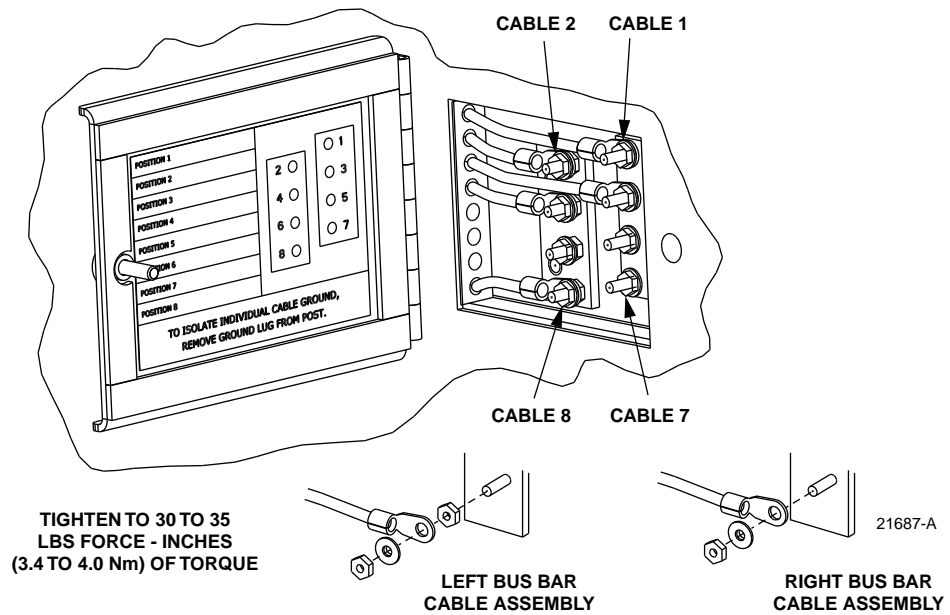

Figure 26. Cable Grounding System - Exterior View
15. Open the grounding system access cover located at the rear side of the cabinet as shown in Figure 26.